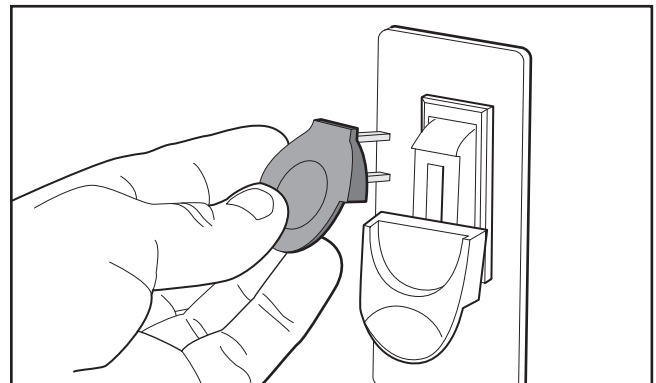

Figure 23. Removing switch key from ON/OFF switch.
5. Remove switch disabling key from ON/OFF switch, as shown in **Figure 23**.